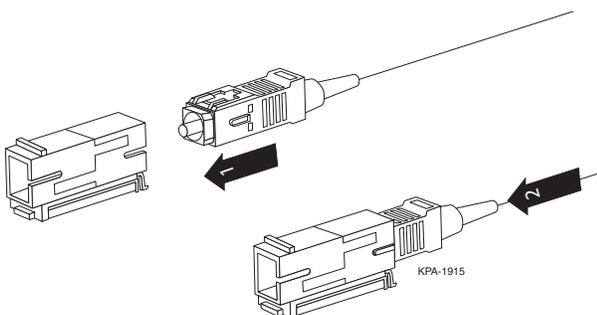
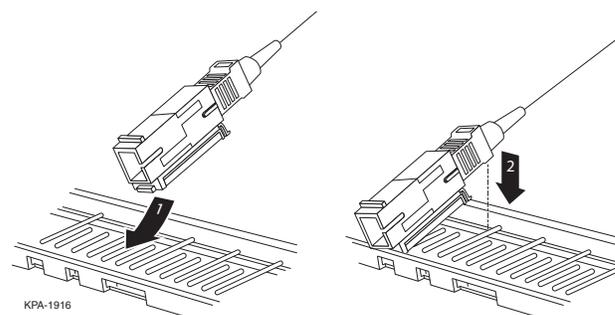

Figure 35
Figure 36
Step 2: Remove dust caps, clean connectors and adapters, then insert connector into adapter (12 SC connectors or 24 LC connectors) (Figure 35).
Step 3: Insert connected SC connector adapters (Figure 36) or slide the connectorized LC connector adapter panel back into the slots in each side of the module (Figure 35).